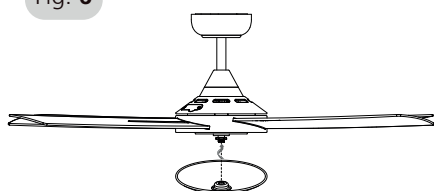

Fig. 7
6. For models with LED light; install the light shade by aligning with the light plate, and twisting in a clockwise direction. Refer Fig. 7